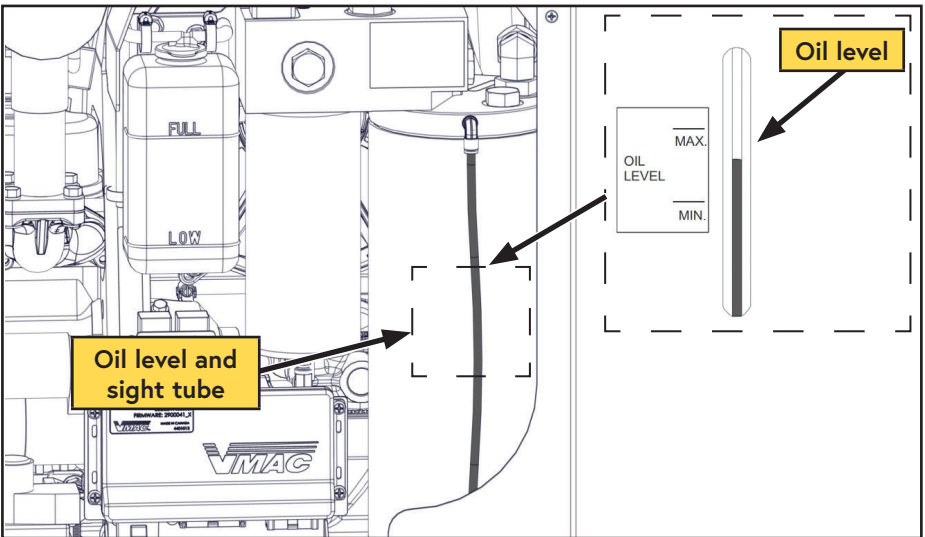

Figure 37 — Add compressor oil
- ☐ Using a funnel, add oil to the AOST until it reaches the "MAX" line on the sight glass on the front of the AOST. The air compressor system holds approximately 1 USG (4 L) of oil when dry (Figure 37).